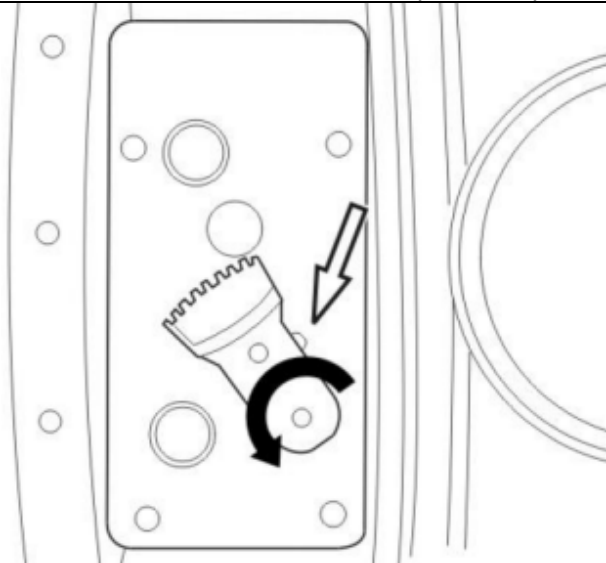

FIGURE 10
14. For turbochargers manufactured without the small 3mm (0.118 inch) alignment hole, a portion (half) of the 5mm (0.197 inch) alignment hole should be exposed at the compressor housing side of the sector gear when the sector gear is fully rotated toward the turbine housing (FIGURE 10).